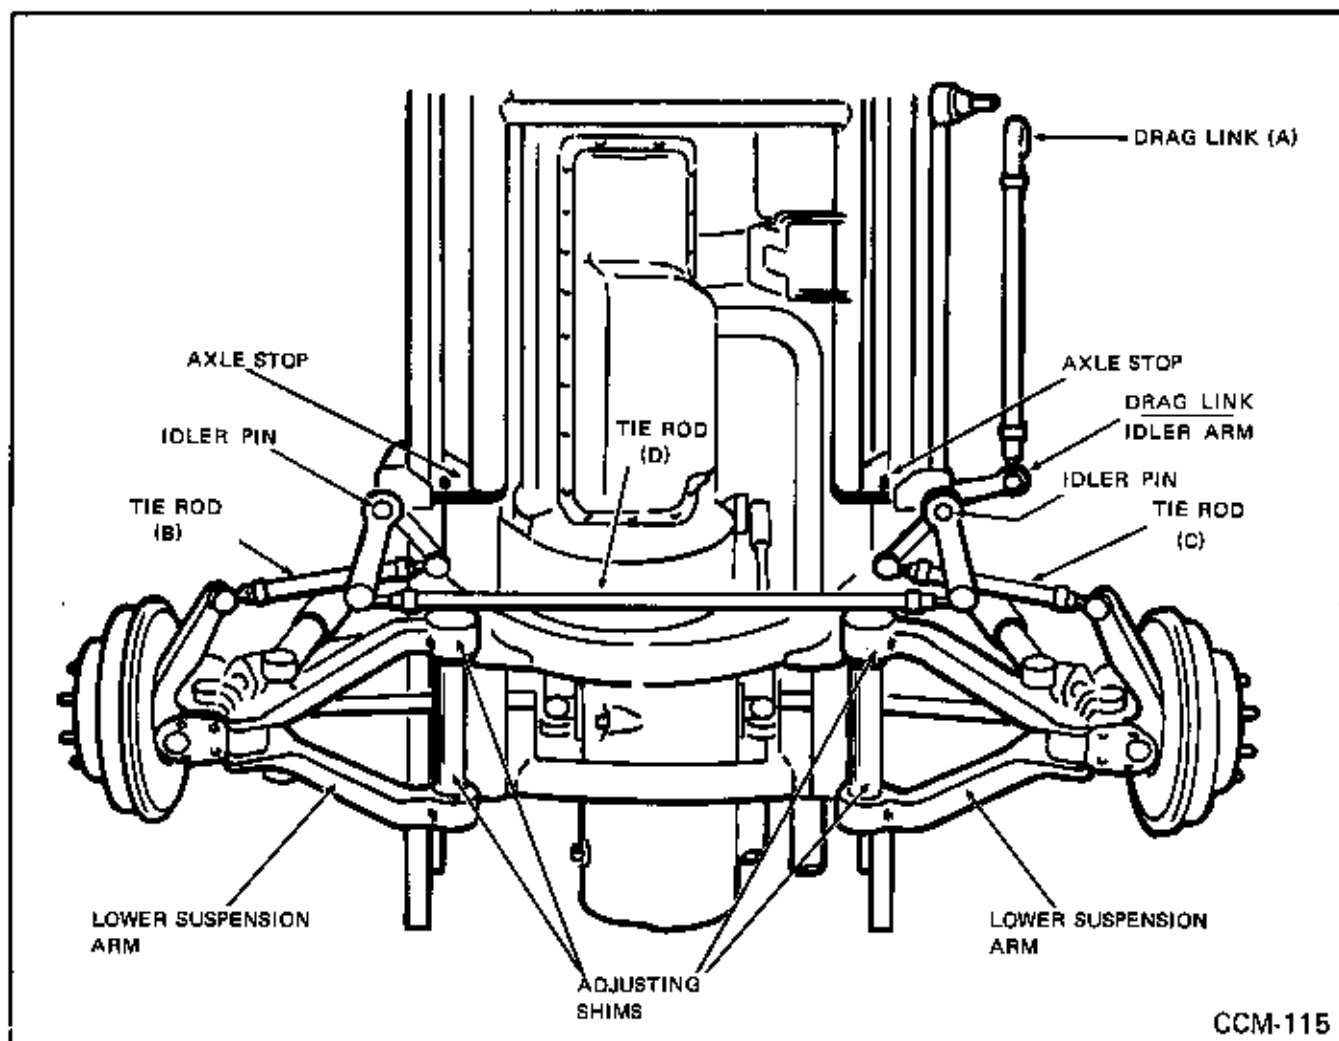

Fig. 110 Wheel Alignment and Steer Linkage Adjustments
2. Adjust tie rod (Item D, Fig. 110) so that distance from center of ball joint to center of ball joint is 39 inches. Fasten clamp bolts securely.
3. Disconnect drag link (Item A, Fig. 110) from idler arm. Remove pitman arm stops. Center steering gear by rotating steering wheel from full right to full left, counting the number of revolutions. Return wheel to center position by reversing the wheel one-half the total revolutions. Steering wheel spoke should be horizontal. If not, remove steering wheel and reposition on steering column.
4. Using the side rail of the frame as a squaring surface, place the center line of the drag link idler arm (Fig. 110) 15/16 inch ahead of the center line of the idler pin. **Do not** move after it has been set.
5. With tie rod set (Item D, Fig. 110), steering wheel centered, and drag link idler arm  $15/16$  inch ahead of pin center line, adjust drag link so that the ball joint shaft will fall freely into the drag link idler arm hole. When adjustment has been made, fasten link clamp bolts and ball joints securely. Do not disturb from this point on.
6. By turning tie rods (Items B & C, Fig. 110) adjust the wheels to the approximate straight ahead position.
9. Adjust tie rods (Items B & C, Fig. 110) to set front alignment at  $3/16$  inch toe-out. After setting has been made, fasten securely all steering linkage by tightening all ball joints and clamping bolts. Be sure all bolts and nuts on the steering linkage do not interfere with other parts when traveling from full right to full left turn.
2. Disconnect drag link "A" (Fig. 110) from Pitman arm. Pitman arm must be in center of travel as shown in Fig. 118.